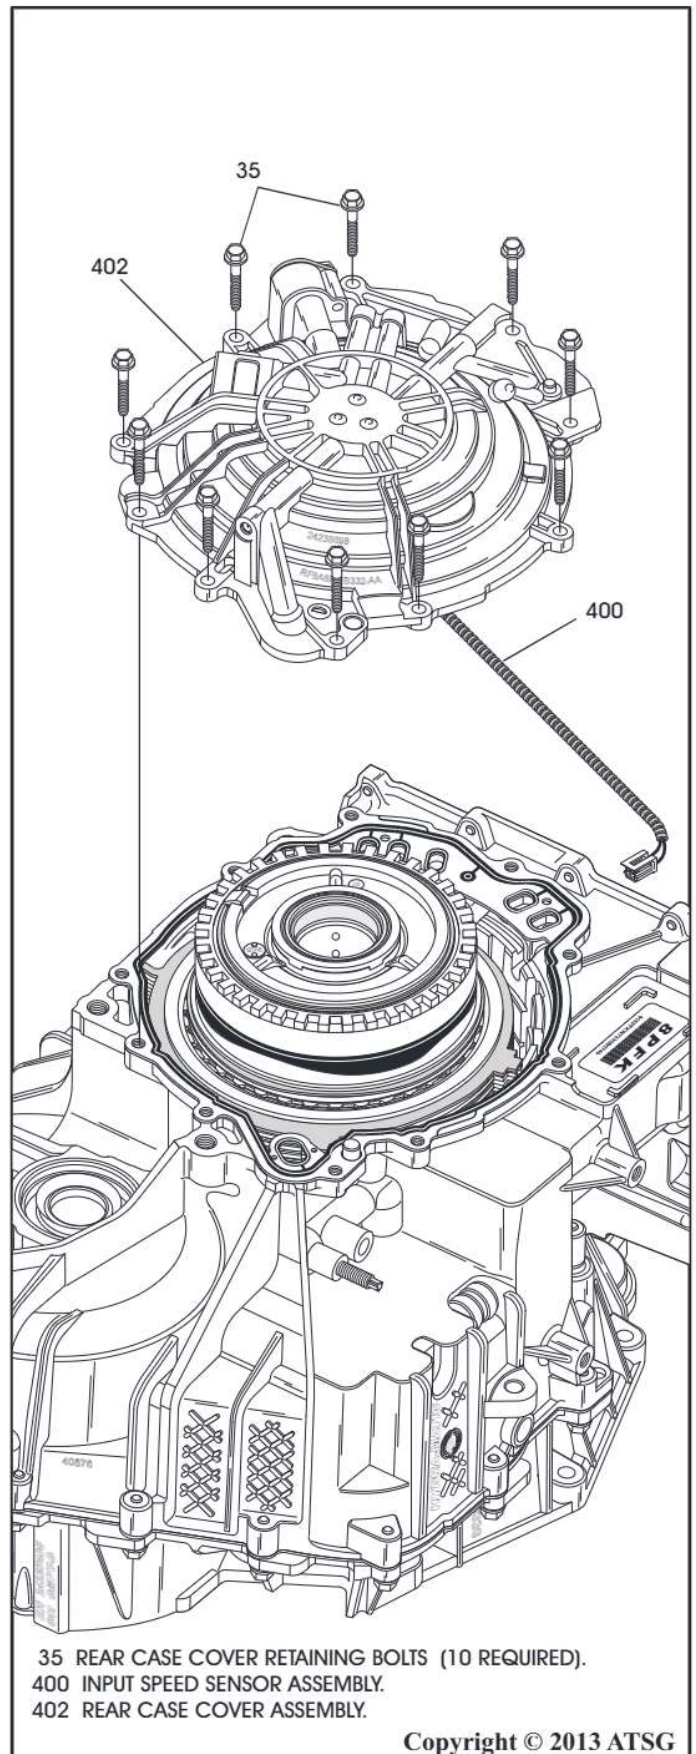

Figure 211
46. Install the completed rear cover, as shown in Figure 211, pulling the speed sensor harness thru the case passage while lowering the cover onto the case and over the alignment dowel.
47. Install the 10 rear cover retaining bolts, as shown in Figure 211.